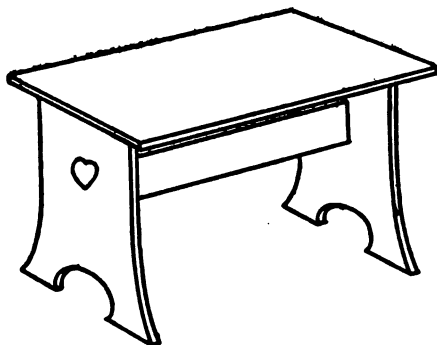

FIG. 271. — Another Design.
- The other design (Fig. 271) will do nicely for
three and three-quarters inches long by half an inch wide, as shown in Fig. 271.